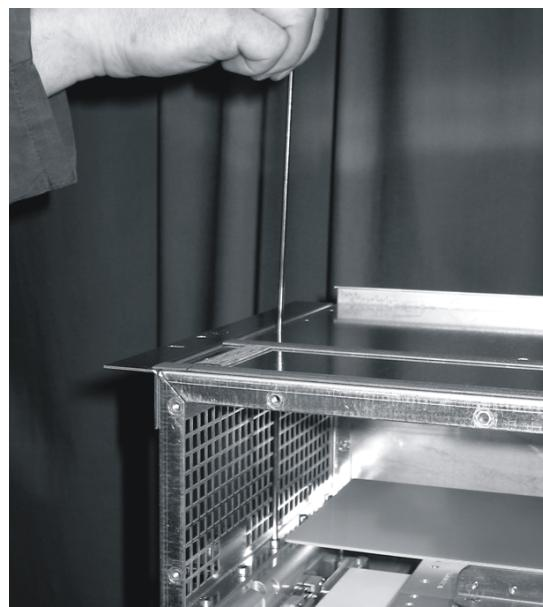

Figure 31: Unscrewing EMI housing from above
46. Use the long 3 mm allen key to unscrew the screws securing the EMI housing from above (see Figure 31).
53. Use the long 3 mm allen key to insert and tighten the screws securing the EMI housing from above (see Figure 31 on page 53). Make sure that the screws are tightened so that the EMI housing is correctly located.